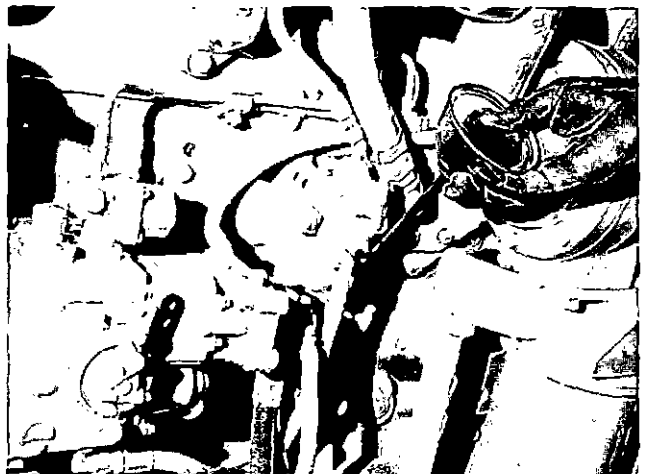

Fig. 5-11. Fill aneroid with oil
3. Fill aneroid with clean engine lubricating oil through hole until oil fills to hole level. Fig. 5-11. Reinstall filter or pipe plug.